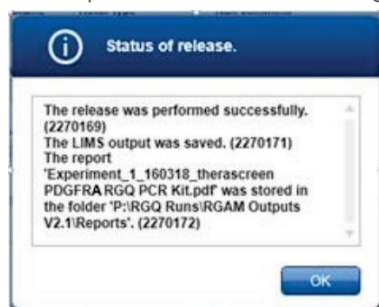

Figure 15. Example of Status of release window.
32. To save the experiment to the archive, create a LIMS output, and run report, click **OK**. The Status of release window will open (Figure 15). Run reports and LIMS exports will be saved in the default report directory. The default directory can be found in the Default data export directories in the Configuration tab.